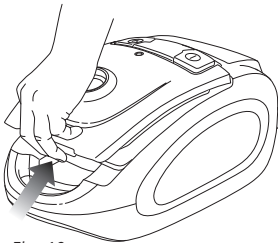

Fig. 10
- 3** Place your fingers underneath the opening indentation behind the vacuum handle and lift the top cover up. (Fig. 10)